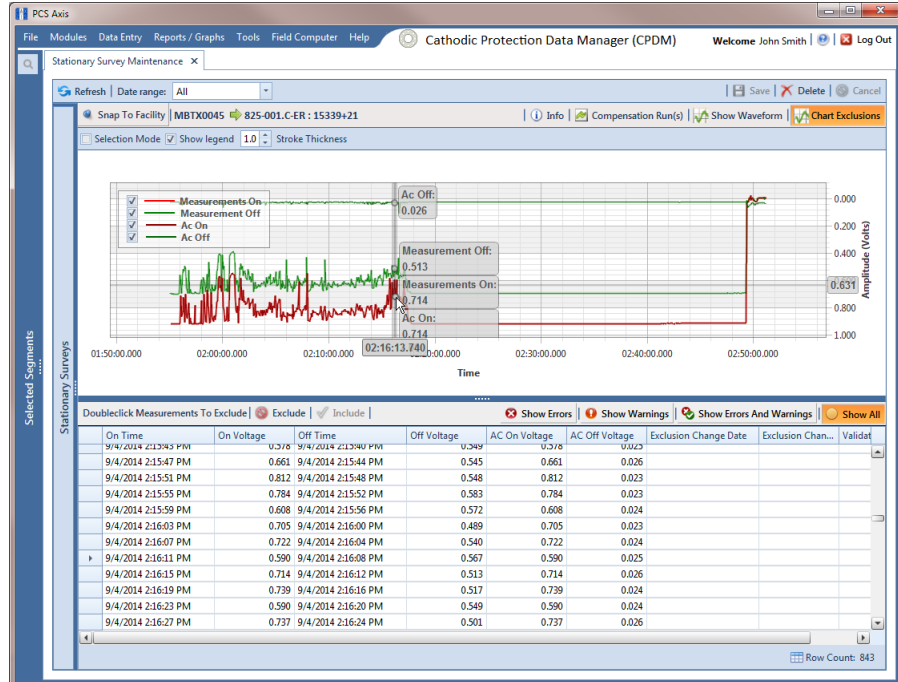

Figure 14-8. Select Survey Record in Grid
- Survey Record Selection:** Click anywhere on a graph line to highlight the corresponding survey record in the survey record grid in the bottom panel. A survey record with an arrow denotes a selection in the grid. For example, the survey record with an *On Time* of 9/4/2014 2:16:11 PM is selected in the following example (Figure 14-8).